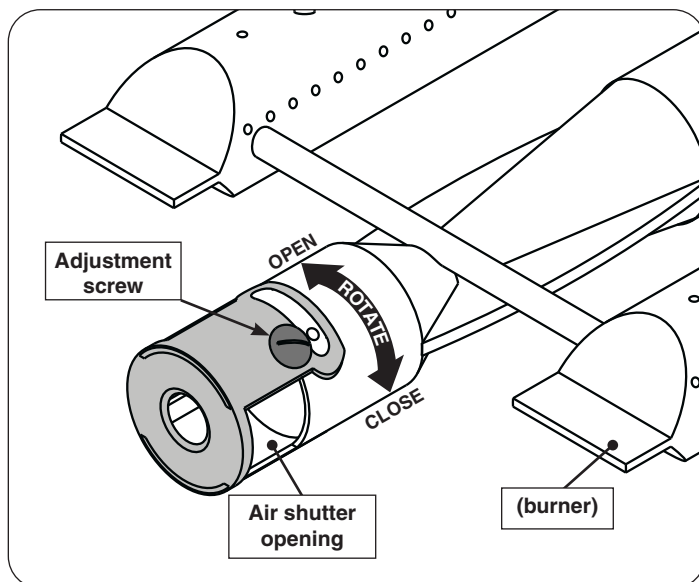

Fig. 33-2 Main burner air shutter adjustment detail
1. To adjust the air shutter, loosen the adjustment screw with a flathead screwdriver. Then rotate the shutter to open or close it. See Fig. 33-2 for details.